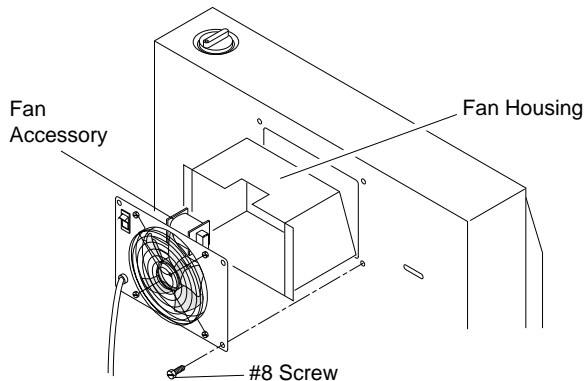

Figure 3 - Attaching Fan Accessory and Fan Housing
2. Position fan housing between fan accessory and heater back panel. Attach fan accessory and fan housing to heater back panel using four #8 screws (see Figure 3).